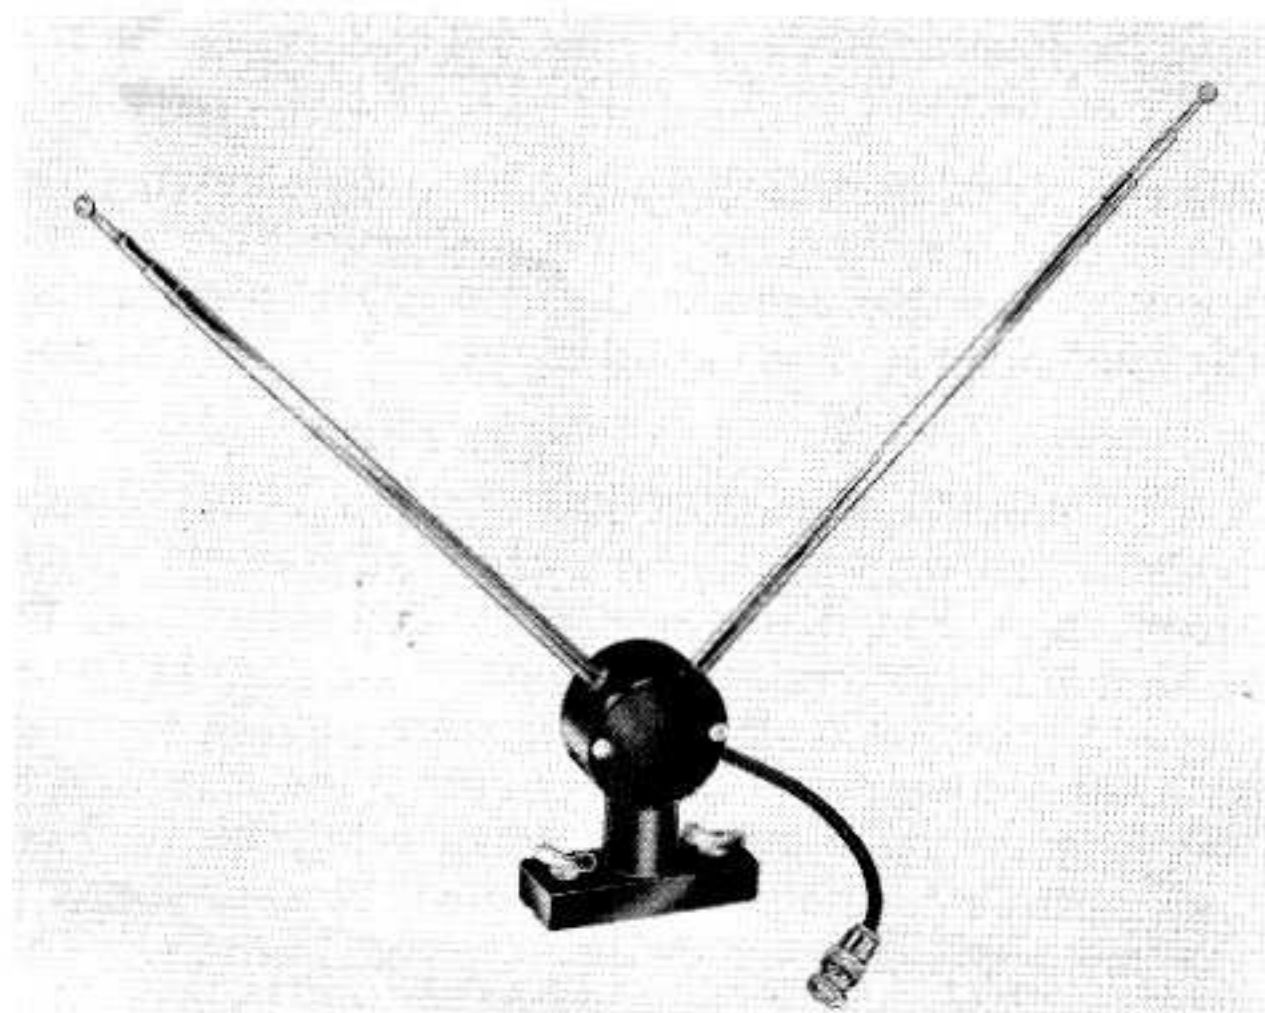

Figure 4
3.2.1 Applications. Antenna choice depends on the particular application as described in this paragraph. The dipole antenna (Figure 4) should be used where horizontally-polarized signals are to be traced. This antenna is directional and may be used to determine the direction from which the interference or r-f transmission is radiating.